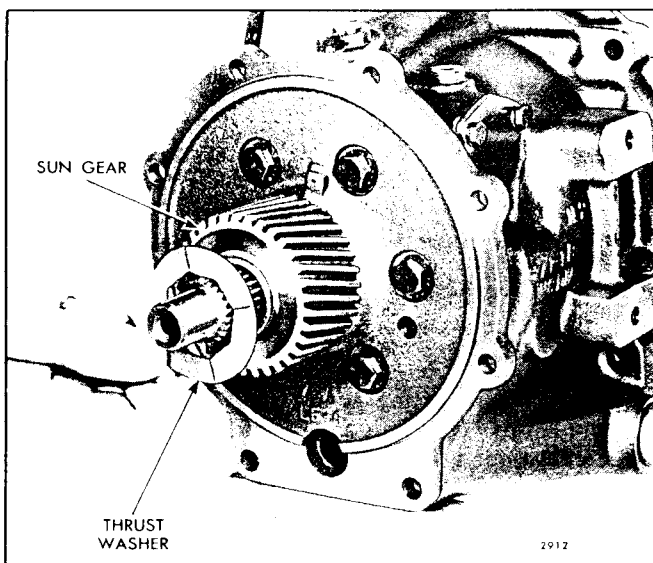

Fig. 106 - Installing Thrust Washer on Hub of Sun Gear (2.1:1 Ratio)
- a. Place the reverse gear assembly on a bench with the reduction gear input shaft in a horizontal position, with a small wood block directly under the rear bottom side of the gear housing (Fig. 106).
- b. Lubricate both sides of the planetary gear thrust washer with engine oil. Then place the thrust washer over the end of the reduction gear input shaft and against the rear face of the sun gear as shown in Fig. 106.